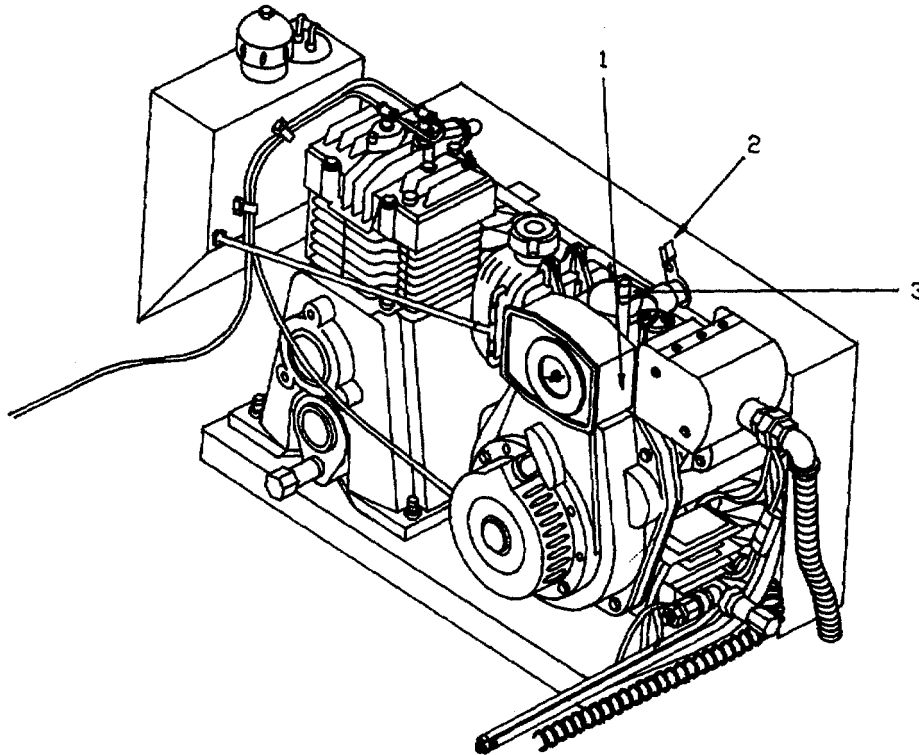

Figure 2-10. Engine Remote Control Lever.
- d. If engine (1, Figure 2-10) does not start, push down remote control lever (2) and try again. Red remote control lever will automatically return upon starting.
When stopping engine, shut off air supply and wait until compressor unloads and engine returns to idle. Do not stop engine suddenly since it may cause the temperature to rise abnormally. Do not stop engine with remote control lever (2, Figure 2-10).